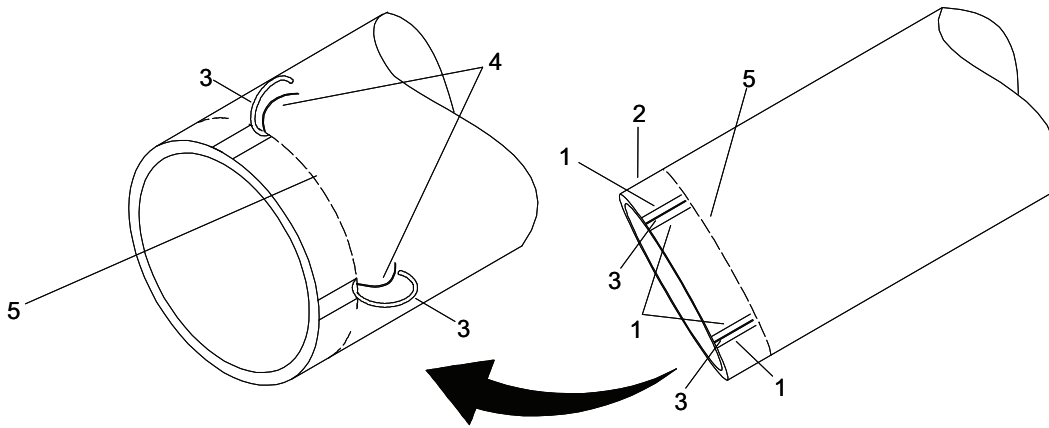

Figure 5. Hose Assembly Repair.
11. Using a knife, cut the reinforcement threads (Figure 5, Item 1) of the hose assembly fabric (Figure 5, Item 2) by cutting along each side of the ground wire (Figure 5, Item 3) as close as possible without cutting the ground wire (Figure 5, Item 3) or the red filament (Figure 5, Item 4) surrounding the ground wire (Figure 5, Item 3). Ensure not to cut all the way through the hose assembly fabric (Figure 5, Item 2).
12. Using the needle nose pliers, expose the ground wire (Figure 5, Item 3) back to the radial line (Figure 5, Item 5) by grabbing the ground wire (Figure 5, Item 3) and rolling the pliers so that the ground wire (Figure 5, Item 3) is rolled back over the pliers jaws.
13. Using the needle nose pliers, hold the ground wire (Figure 5, Item 3) so that it doesn't get damaged and cut the hose assembly fabric (Figure 5, Item 2) at the radial line (Figure 5, Item 5), removing the rest of the hose assembly fabric (Figure 5, Item 2) from around the ground wire (Figure 5, Item 3). Discard excess hose assembly fabric (Figure 5, Item 2).
14. Expose the other three ground wires (Figure 5, Item 3) using steps 4-13
15. After all four ground wires (Figure 5, Item 3) have been exposed, cut all excess hose assembly (Figure 5, Item 2) fabric out at the radial line (Figure 5, Item 5) previously marked. Discard excess hose assembly (Figure 5, Item 2) fabric.
16. Remove the red filament (Figure 5, Item 4) surrounding each ground wire (Figure 5, Item 3). Discard red filament (Figure 5, Item 4).